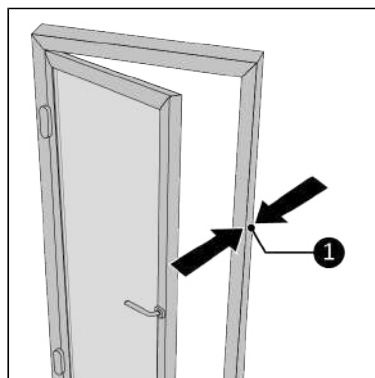

Figure 58.
2. Measure the width of the fixed part of the window frame (Figure 58, pos. 1).